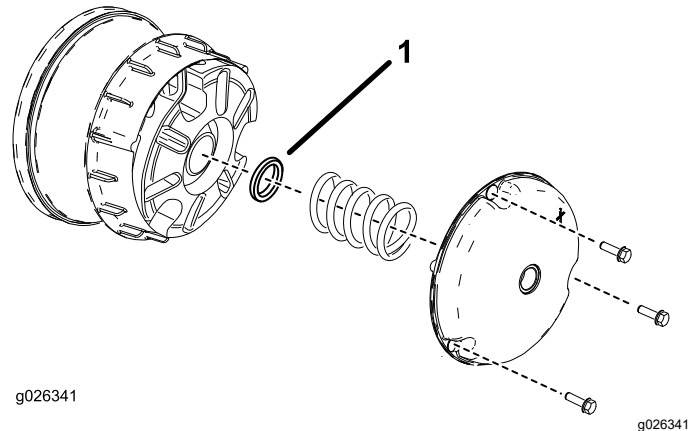

Figure 51
- Remove the bolts securing the primary clutch cover as shown in Figure 51.